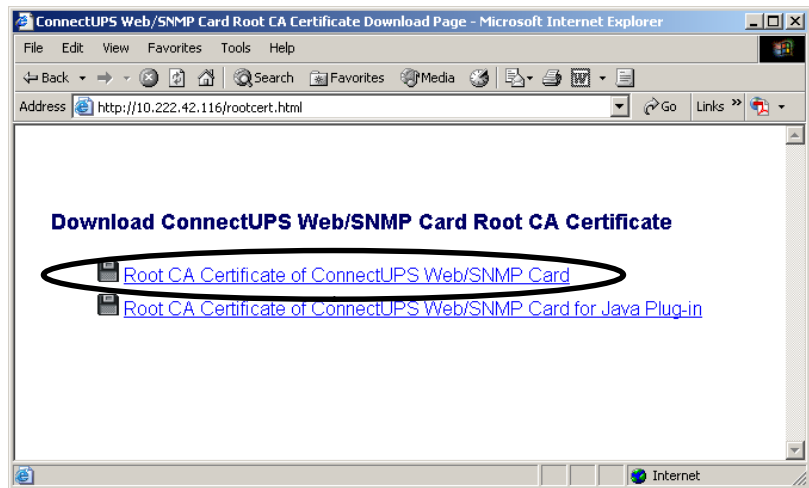

Figure 16. Download Page
2. Type `http://<IP Address>/rootcert.html` where <IP Address> is the one assigned to the card, and press Enter. The Download page opens (see Figure 16).